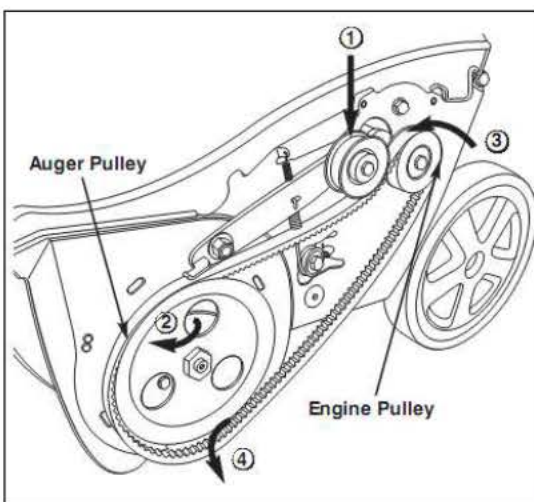

Figure 20
2. Push down on the idler pulley to release the old belt from under the belt keeper. Remove the old belt by grasping it from the bottom of the auger pulley and pulling outward. See figure 20.